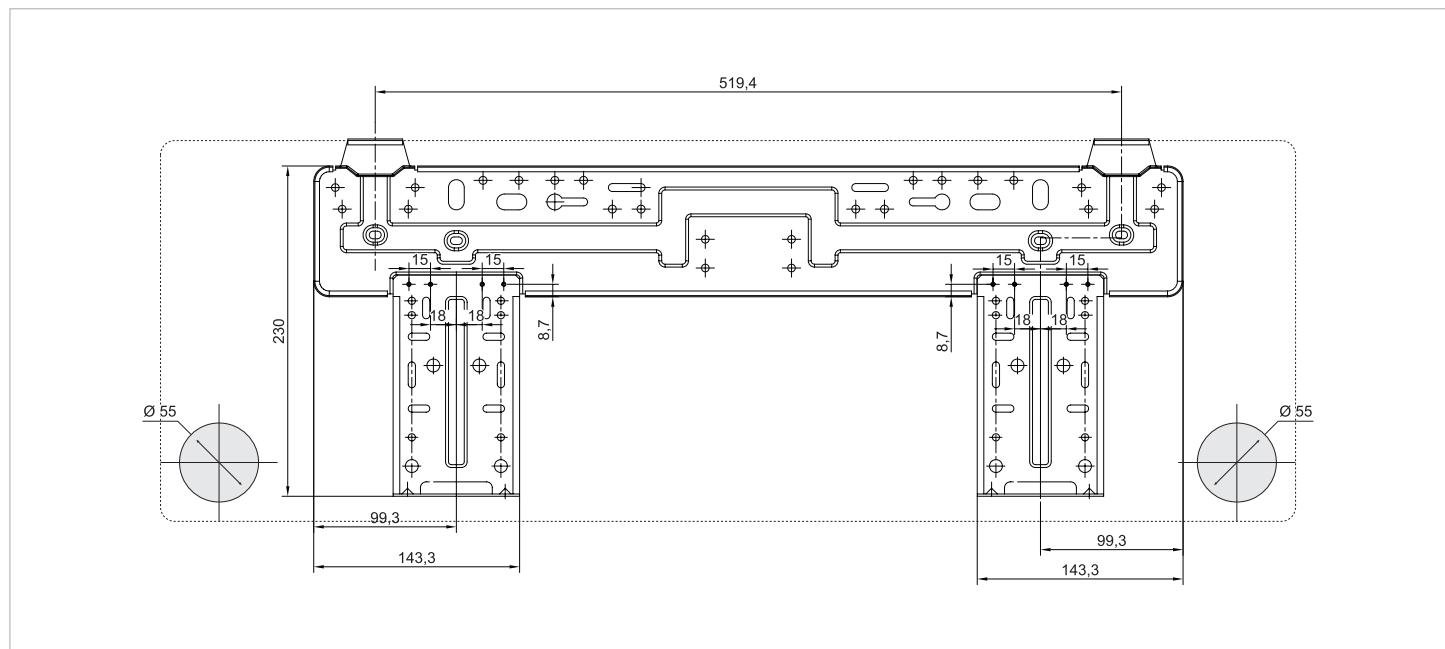

Fig. 9.6 Mounting plate for 17-025 NMWI.
In this case, a suitable hole must be made in the wall behind the unit (see Figure 9.6).
- Drill a hole in accordance with the diameter and position as indicated in Figures 9.6, ensure the hole is slightly descending to the outside to allow for a fall in the drain line.